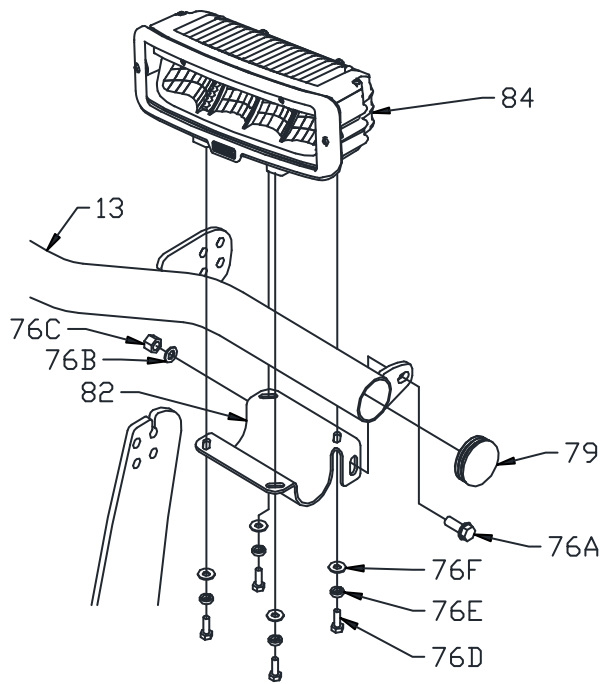

**Figure 13.** Light Bar Assembly Adjustment G10131
**Note:** Figure 13 illustrates that the Coupler Assembly and Light Bar have two sets of 1 inch adjustment holes for mounting on different vehicles. These adjustment holes may be needed in order to move the light bar away from the vehicle's hood.